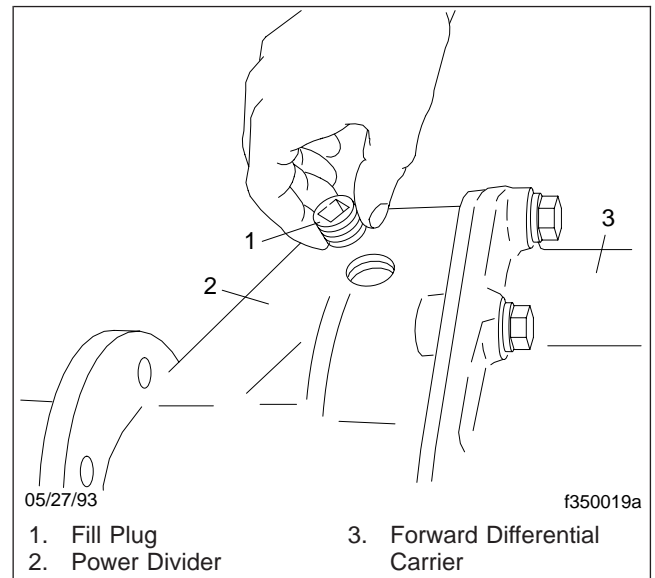

Fig. 9, Power Divider Fill Plug
- 8.3 For forward drive axles, remove the power divider fill plug, located slightly offset to the right in the top portion of the forward differential carrier. See Fig. 9. Add two pints (1 L) of lubricant through this fill hole. Do not use the hole at the *top* of the differential carrier as a fill hole. Install and tighten the fill plug 40 to 60 lbf-ft (54 to 81 N·m).